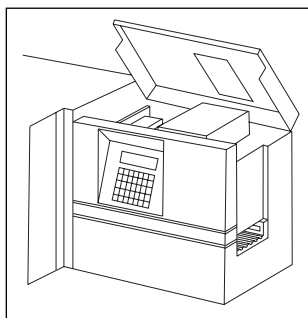

Figure 9.1
1. Lift right hand side of top (Figure 9.1).